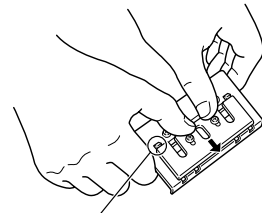

Fig. 12
- (2) Insert the set gauge plate spring into the hole on the back metal and heavily push the plate spring in the direction indicated by the arrow in Fig. 12 until it snaps into the correct position.